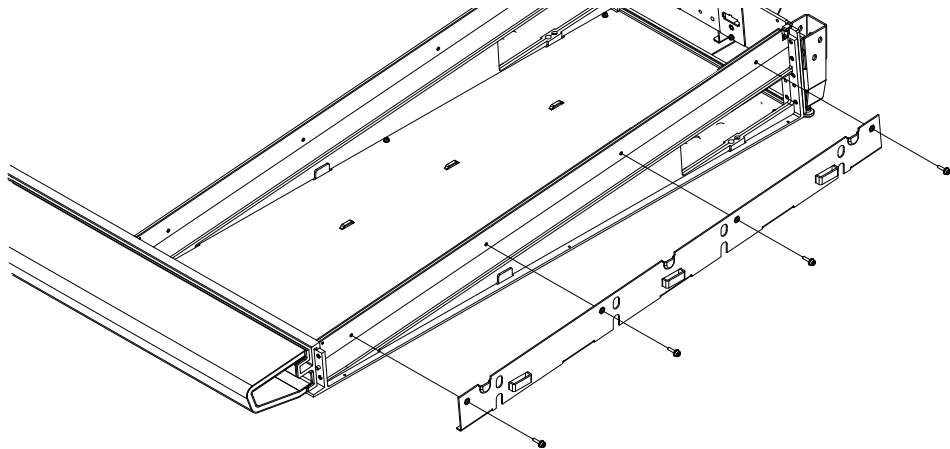

Figure 31. Attaching the right side panel mounting plates
- 3 Secure the Right Side Mounting Plate to the right side of the frame, making sure to orient them correctly as shown in Figure 31.